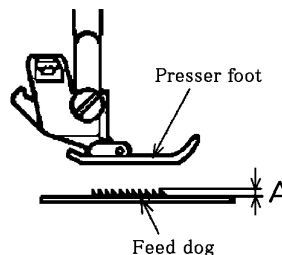

Fig.1
2. When the feed dog is brought to the highest position (= upper dead point of needle bar) by rotating the handwheel, measure the distance (A) between the surface of needle plate and the upper limit of feed dog.(Fig. 1)
A = 1.15 ± 0.1 mm (Fig.1)